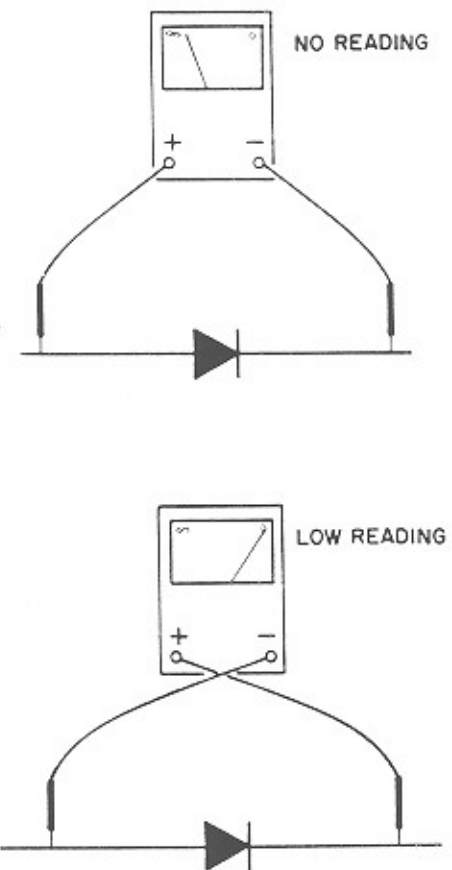

FIGURE 4-3. DIODE TEST HOOKUP
Test silicon diodes as follows (See figure 4-3):
- Connect the diode as shown in figure 4-3.